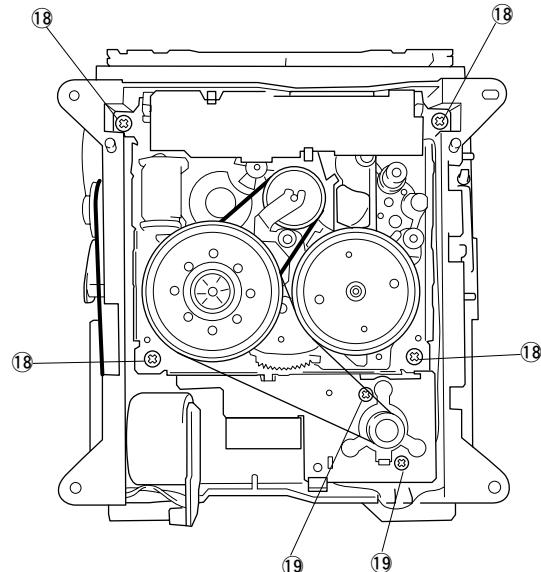

Fig. 14
Remove 4 screws (⑱) and then pull out the Cassette Mechanism in Fig. 14.
Remove 2 screws (⑲) in Fig. 14.